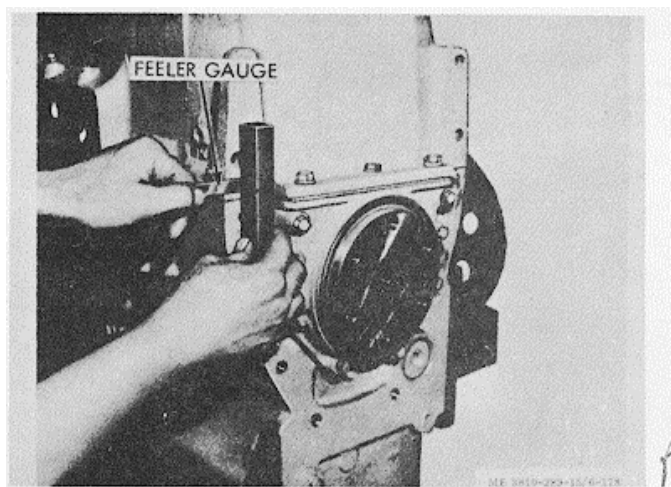

Figure 3-172. Pan-to-block alignment check.
(4) Using a straightedge, check rear surface of block and oil pan to be sure these surfaces are flush (fig. 3-172).